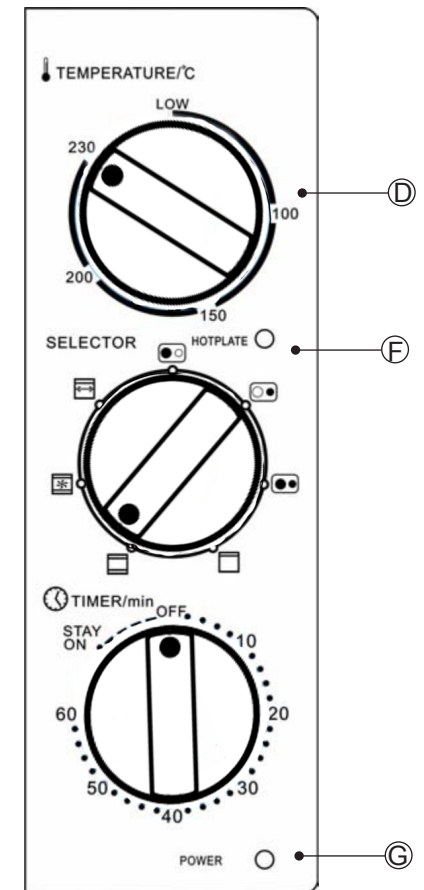

fig. 7
2. The Hotplate Power Indicator (F) will light up when a hotplate is on. See fig. 7.
3. When finished cooking turn the hot plates off by turning the Timer dial (G) to "OFF".
See fig. 7.